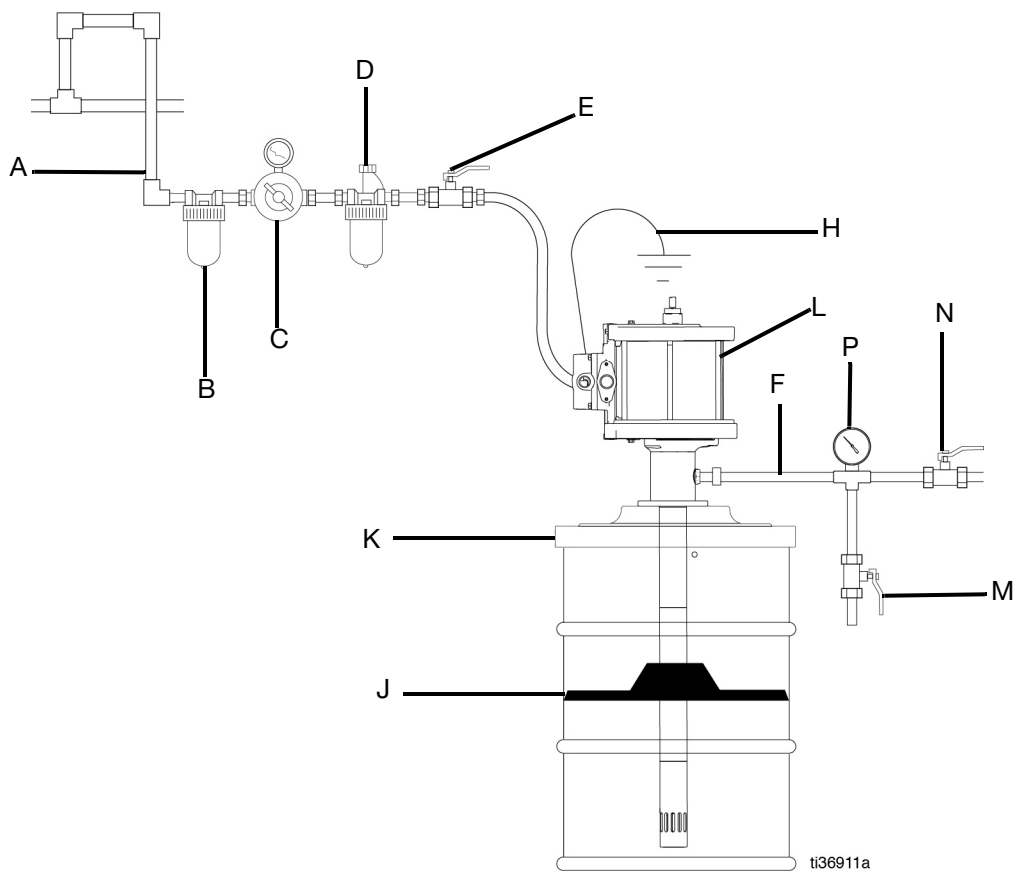
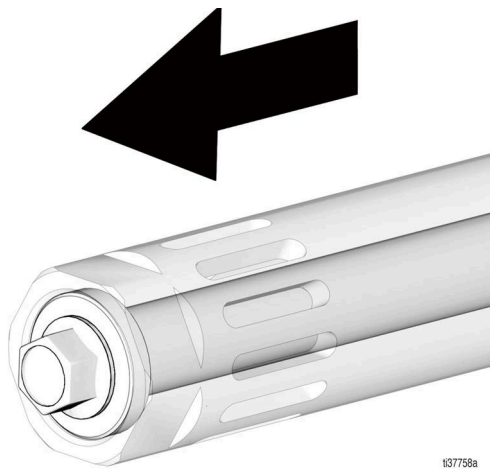

FIG. 1
FIG. 3
1. Close the bleed type master air valve (E, FIG. 1) to stall the pump while it is in the down stroke position (FIG. 3).